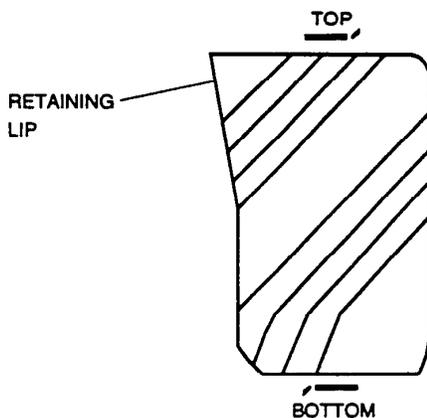

FIGURE 1
4. To install the new seal, place the top part of the seal (the top side has the retaining lip) into the base of the packer. The retaining lip is upward (see Figure 1).